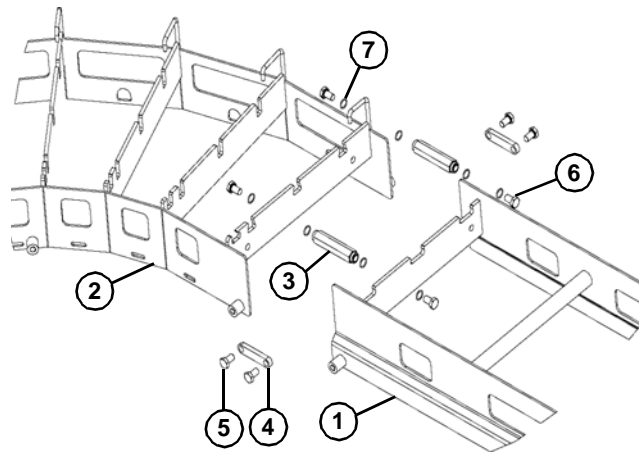

Figure 4
Typical Connection Components (Figure 4)
3. Connect the frame sections by bolting the hex post connectors (**Figure 4, item 3**) with O-rings (**Figure 4, item 7**) to the cross member supports of each frame section.
4. Attach the flat connectors (**Figure 4, item 4**), if applicable, to the inside of the frame sections.